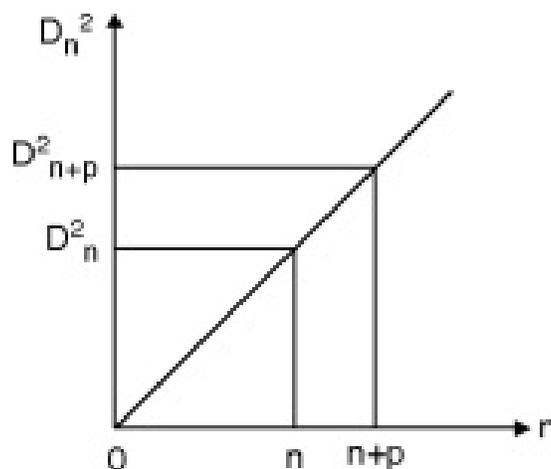

Fig. 2.3.2
• For more accurate approach we plot a graph of D_n^2 vs n as shown in Fig. 2.3.2